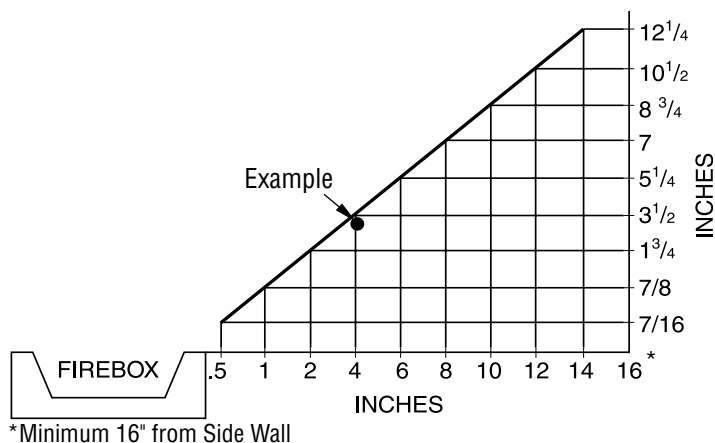

Figure 2 - Minimum Clearance for Combustible to Wall
- where curtains, furniture, clothing or other flammable objects are less than 36" from front, 42" from top of appliance; for side clearances see *Figure 2, Page 6*
A. Clearances from the side of the fireplace cabinet to any combustible material and wall should follow diagram in **Figure 2**.
Example: The face of a mantel, bookshelf, etc. is made of combustible material and protrudes 3-1/2" from the wall. This combustible material must be 4" from the side of the fireplace cabinet (see **Figure 2**).